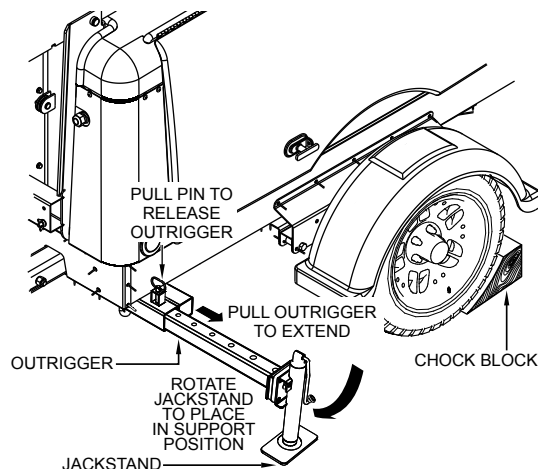

Figure 16. Deploying Outriggers
1. Place light tower on secure level ground with chock blocks (Figure 16) underneath each wheel to prevent the light tower from rolling.
2. Make sure both outriggers (Figure 16) are extended. To extend the outriggers, pull the locking pin on the outrigger and hold while sliding out the outrigger assembly